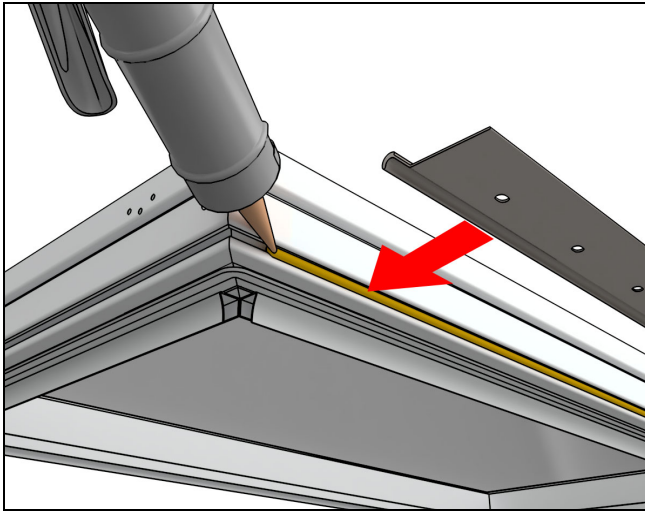

Figure 41
**12. On Skylight units only**, apply sealant to mounting flange kerf on all four sides of the product prior to installing the mounting flange. See Figure 41.